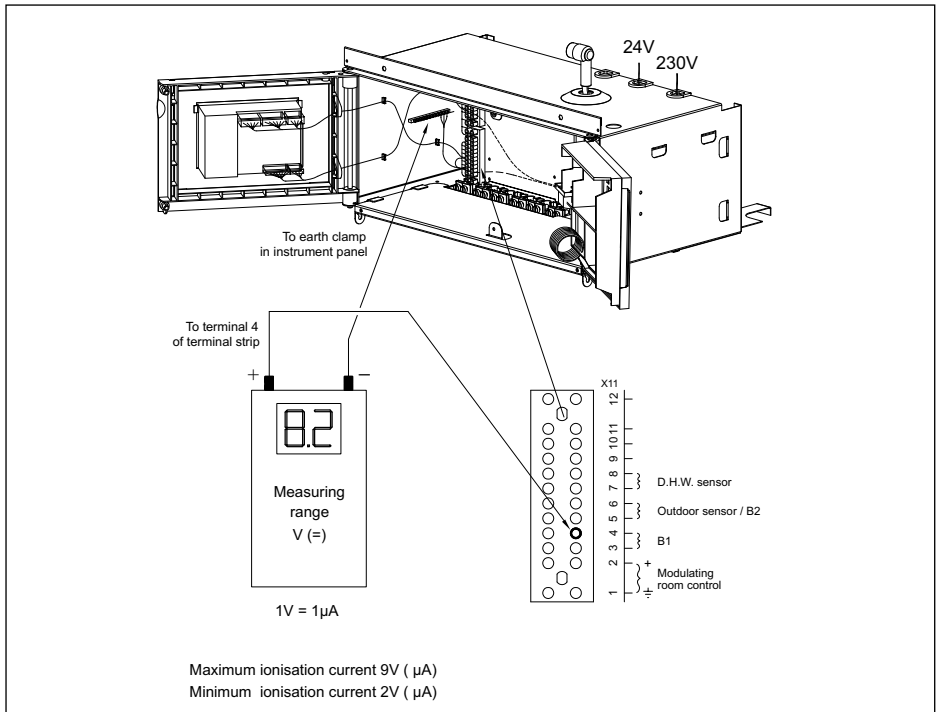

Fig. 21 Ionisation measurement
- 18 e. Check ionisation level on full and part load, measurement in volts between terminal 4 and earth max 9 volts min 4 volts DC, see Fig. 21 (measurement is linear 1V dc = 1µA dc).